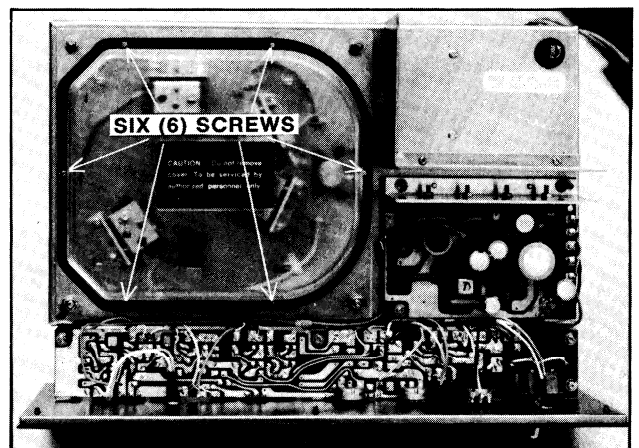

Figure 2
- c) When you have removed chassis, place it with front panel facing you, down on work table. Position shown in Fig. 2.